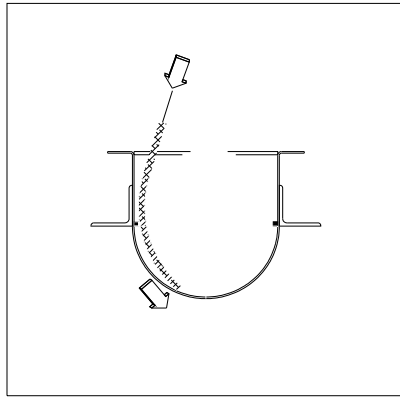

Figure 2.5.2e
6. Push the new liner under the spiral, making sure the wear indicator strip is at the bottom. It is important to secure the liner under the retainer blocks on each side of the trough (Figure 2.5.2e & 2.5.2f).